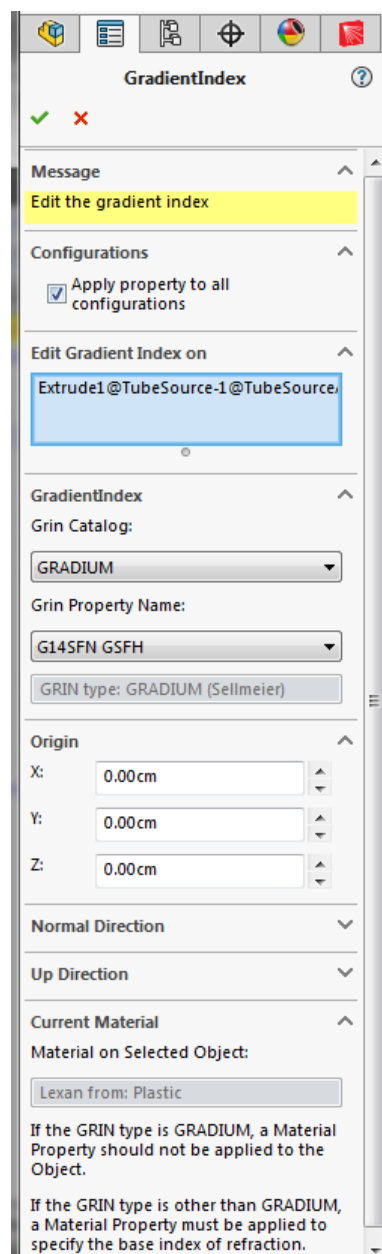

Figure 4.5 Gradient Index Property Manager
- Apply a Material property on the part (see the Material Property section in this chapter). The Material selected is shown in the Current Material drop-down Box in the **Gradient Index** Property Manager (bottom of Figure 4.5).